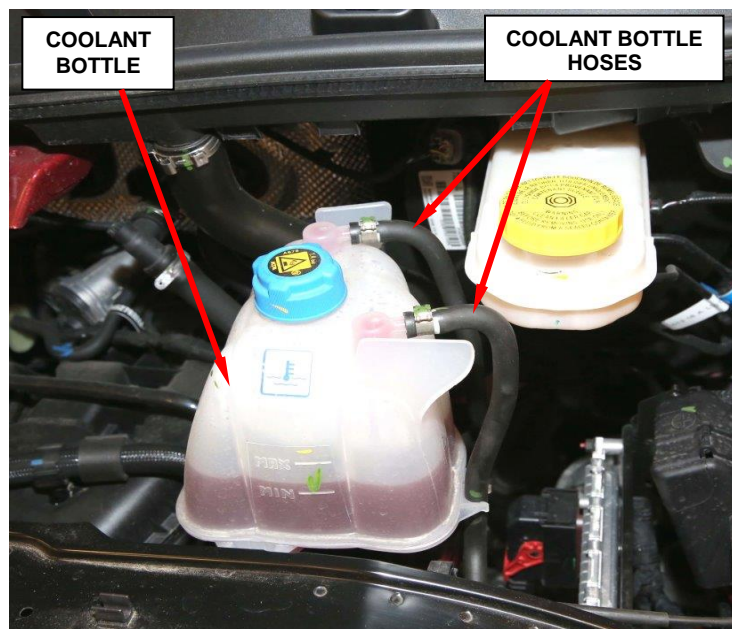

Figure 19 – Coolant Bottle Hoses
4. Disconnect the two small coolant hose on the top of the coolant bottle (Figure 19).